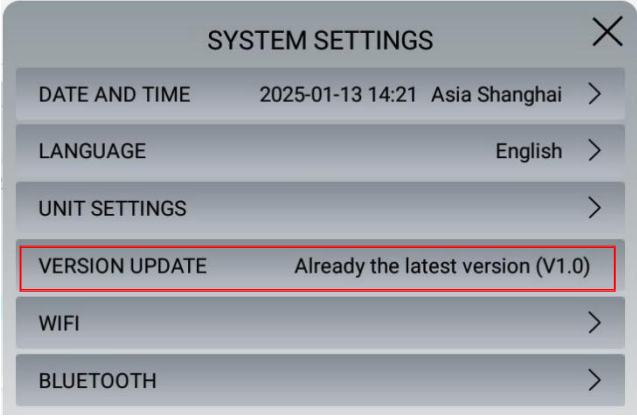

Fig. 7-10
- 3.As shown in Fig. 7-10, tap "VERSION UPDATE", and wait for the installation to complete.